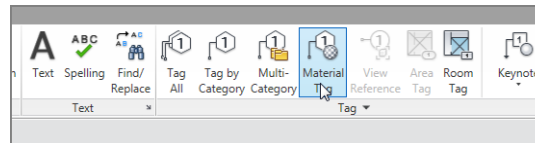

FIGURE 11.70: The Material Tag button on the Tag panel
3. On the Tag panel of the Annotate tab, click the Material Tag button, as shown in Figure 11.70.